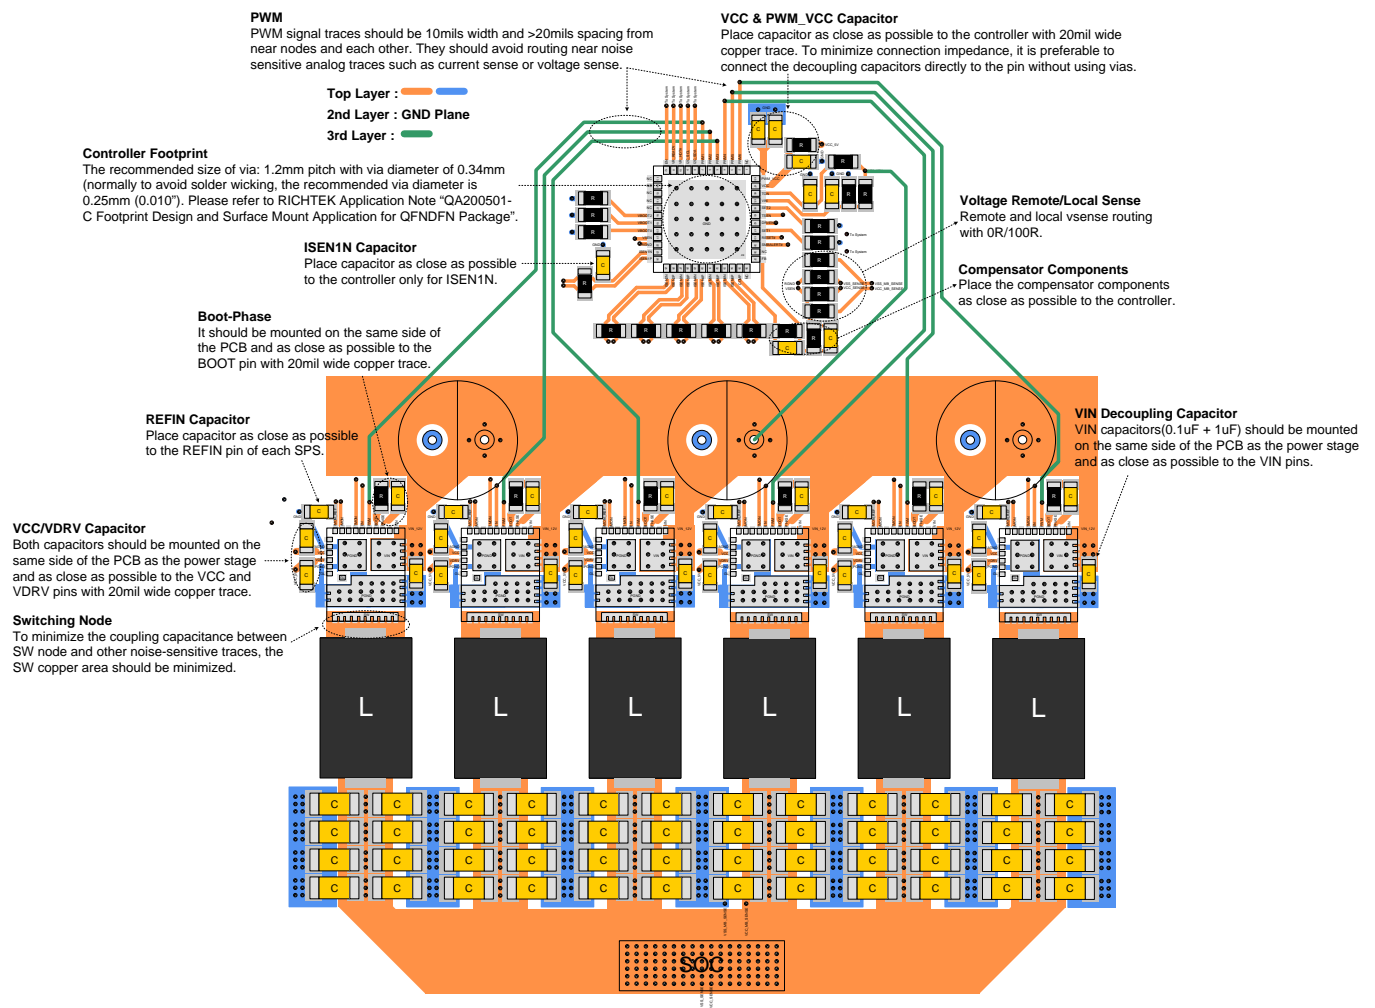
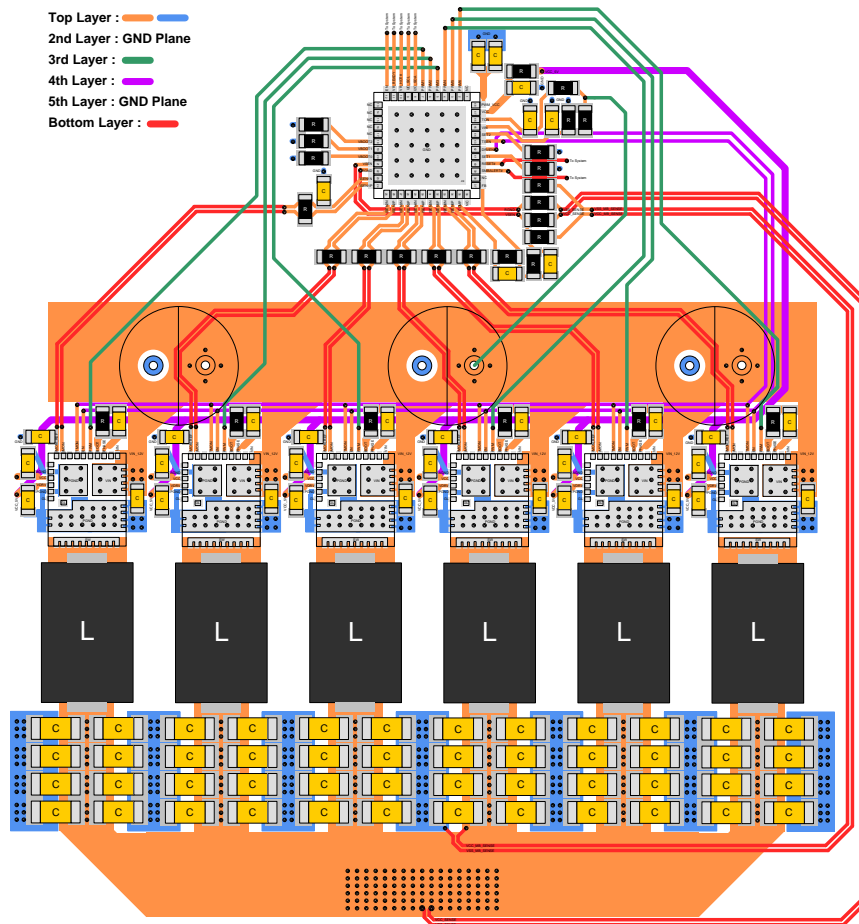

Figure 29. Layout Suggestion for RTQ8826: Top/2nd/3rd Layer
Figure 32. Layout Suggestion for RTQ8826: All Layer
- **Figure 29 to Figure 32, summarize how to route multi-phase synchronous buck controller with 6-layer board.**